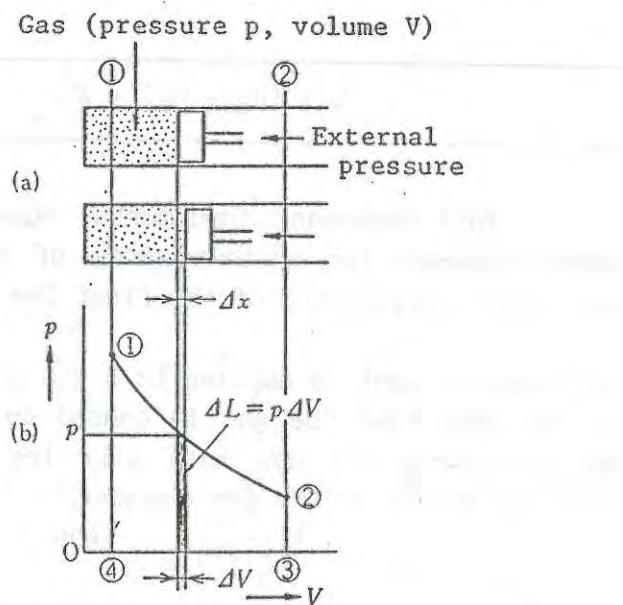

Fig. 4-1 Work Done by Expansion of Gas
Generally, if the expanded gas is forced against an external area, it works towards the outside. Fig. 4-1 (a), demonstrates the work which is exerted outside when the gas in the cylinder expands to push the piston from 1 to 2.
When this equation is considered in reference to Fig. 4-1(b), it is clear that the shaded area represents the work  $\Delta L$ . The total work  $L$  (kgf.m) done externally when the gas expands from 1 to 2 can be found by adding all of the continuous changes of  $\Delta L$  from 1 to 2.
As shown in Fig. 4-1(b), the graph which represents the changes in state of the gas by plotting pressure  $p$  on the vertical axis and volume  $V$  on the horizontal axis is called a  $pV$  graph. In a  $pV$  graph, work can be expressed at points ①, ②, ③, and ④ in the graph1/.
Q 4. In Fig. 4-1 (a), if the piston moves from 1 to 2 with no change in pressure inside the cylinder, what shape will the  $pV$  graph for this change have?